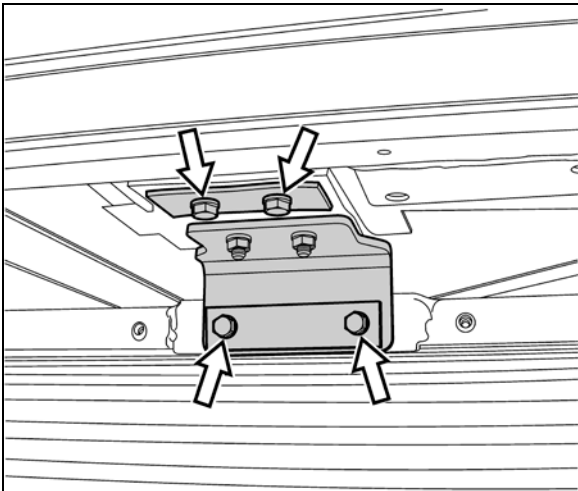

FIGURE 27: UPPER RADIATOR ASSY SUPPORT BRACKET
12. Remove the upper radiator assembly support bracket (Figure 27).